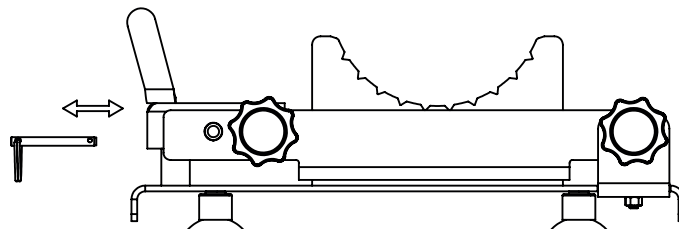

Figure 2
- Before you start using your equipment, remove the safety pin, reinsert it when you are finished using it, and leave the machine in a safe position.(Figure 2)
**Warning: Keep the safety pin attached and the handle in the position in Figure 2 when you dont use your product in order to prevent injuries that may occur as a result of accidental falling of the blades.**